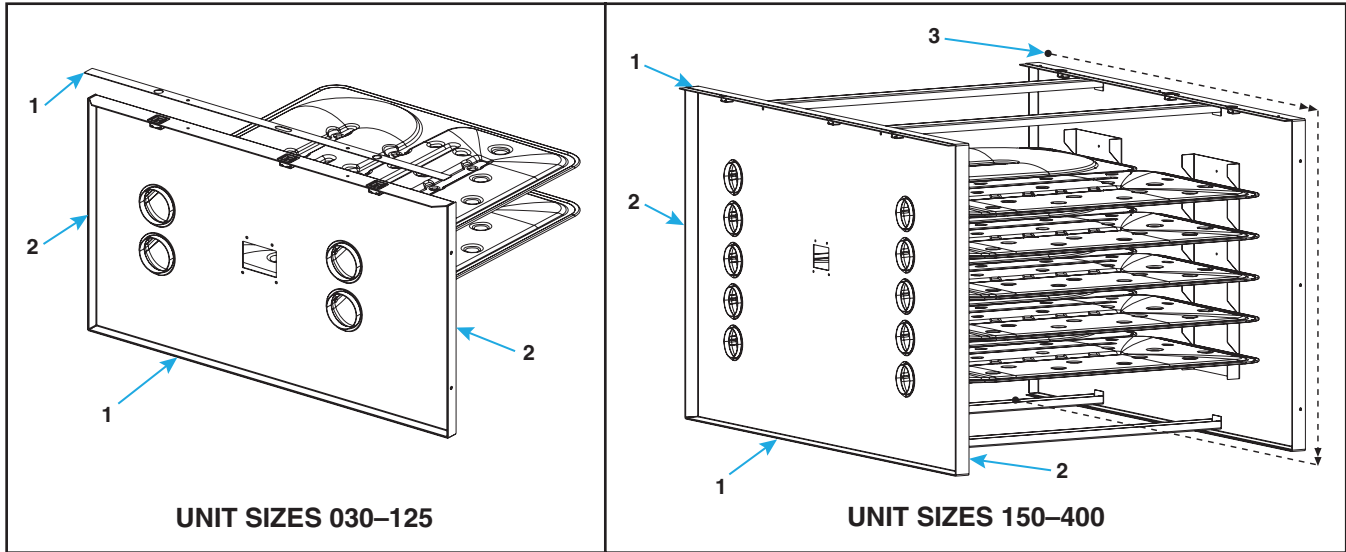

Figure 1. Heat Exchanger Gasket Locations (Refer to Table 1)
*See **Figure 1**.
Install the heat exchanger gasket kit as follows (item numbers refer to Figure 1):